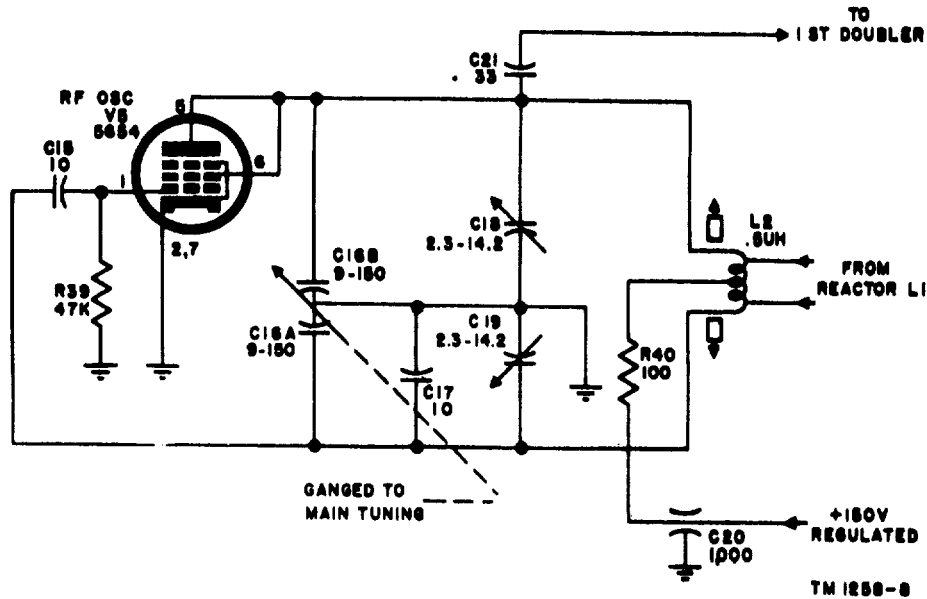
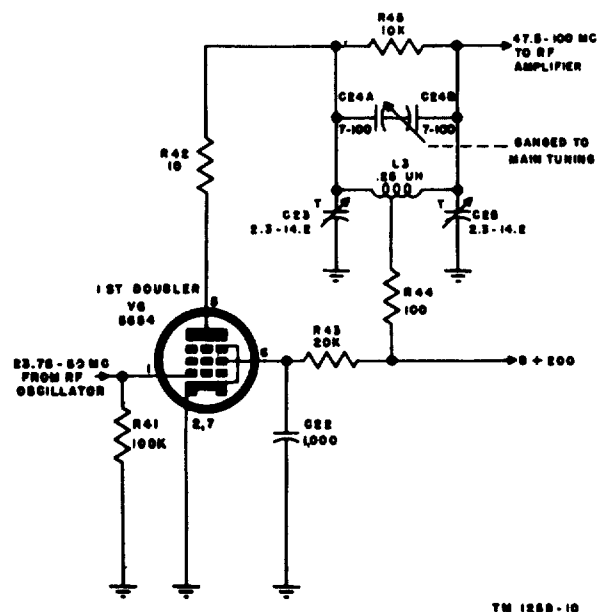

Figure 9. Rf oscillator circuit.
Figure 11. First doubler stage.
*a.* The rf oscillator circuit (fig. 9) uses a type 5654 rf pentode connected as a triode in a circuit equivalent to a Colpitts oscillator. The oscillator has a frequency range of 23.75 to 50 mc. The frequency of oscillation is determined by the tank circuit consisting of center-tapped inductance L2, trimmer capacitors C18 and C19, split-stator main tuning capacitor C16A and C16B, and capacitor C17. The in-phase feed-back voltage necessary to sustain oscillation is coupled by C15 to the grid of V5. Assume that a positive signal voltage appears at the grid of V5. After amplification by V5, the signal voltage with respect to ground is negative at the plate side of L2 and positive at the grid side. This is because the junction of tuning capacitor C16A and C16B is connected to ground. The signal voltage across C16A and the lower half of L2 is, therefore, of the proper polarity to reinforce the existing signal voltage at the grid of V5. The amount of feed-back voltage coupled to the grid circuit is determined by the ratio of capacitance between the grid side to ground and from the plate side to ground in the
a. The signal output of the rf oscillator is coupled by C21 (fig. 9) to the grid of first doubler V6 (fig. 11). Grid current flowing through grid return resistor R41 produces the necessary self-bias.